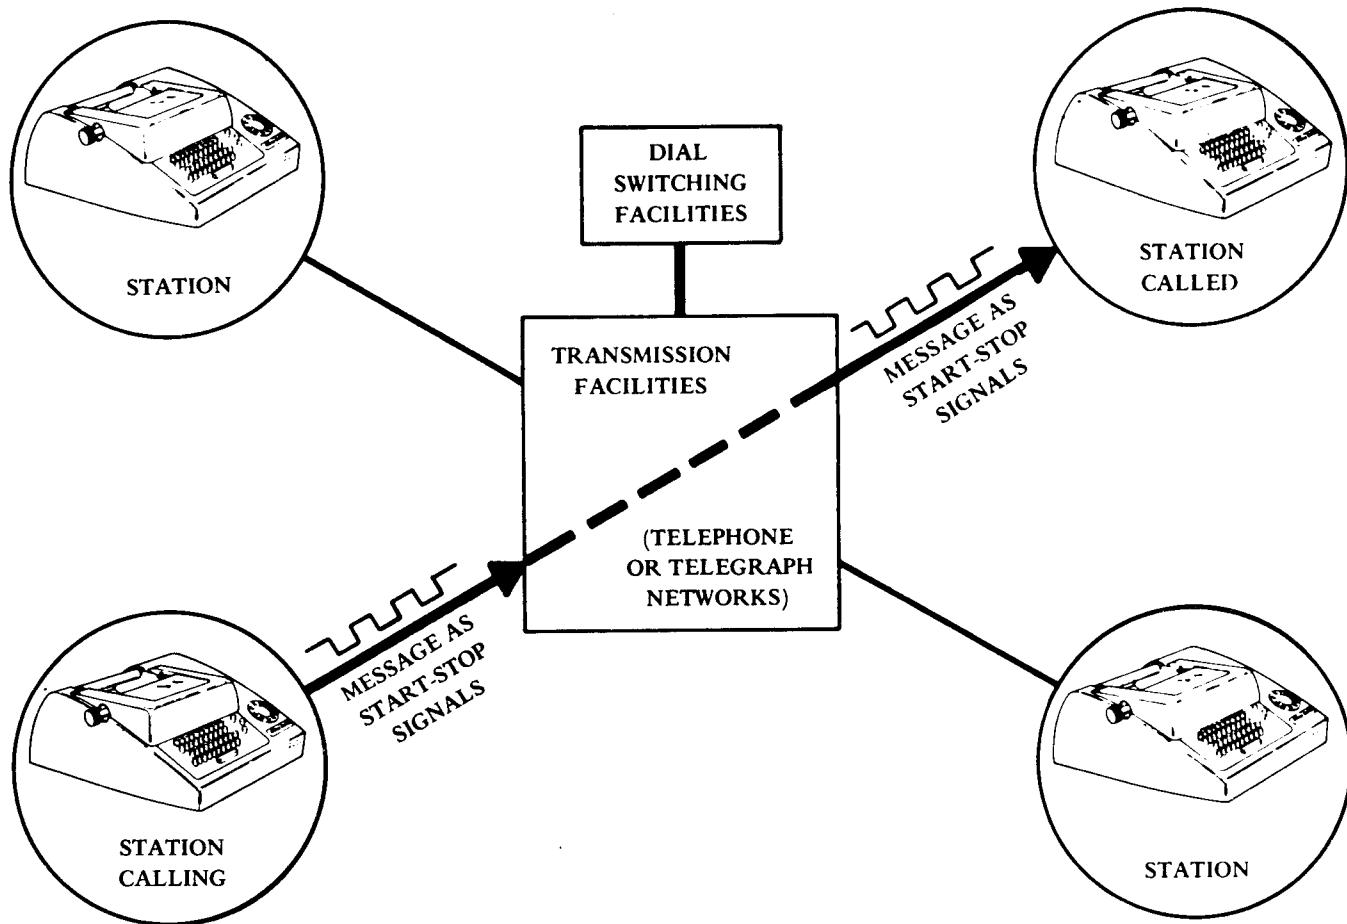

Figure 16 - Typical Applications
**5.01** The following is a brief description of how 33 Teletypewriter Sets, equipped with call control and answer-back features, may be used in a typical communication system (Figure 16). When a call is to be made, an operator uses the controls on the teletypewriter set to gain access to the system switching and transmission facilities, which may be dial telephone or telegraph networks. The operator then dials the number of the called station.